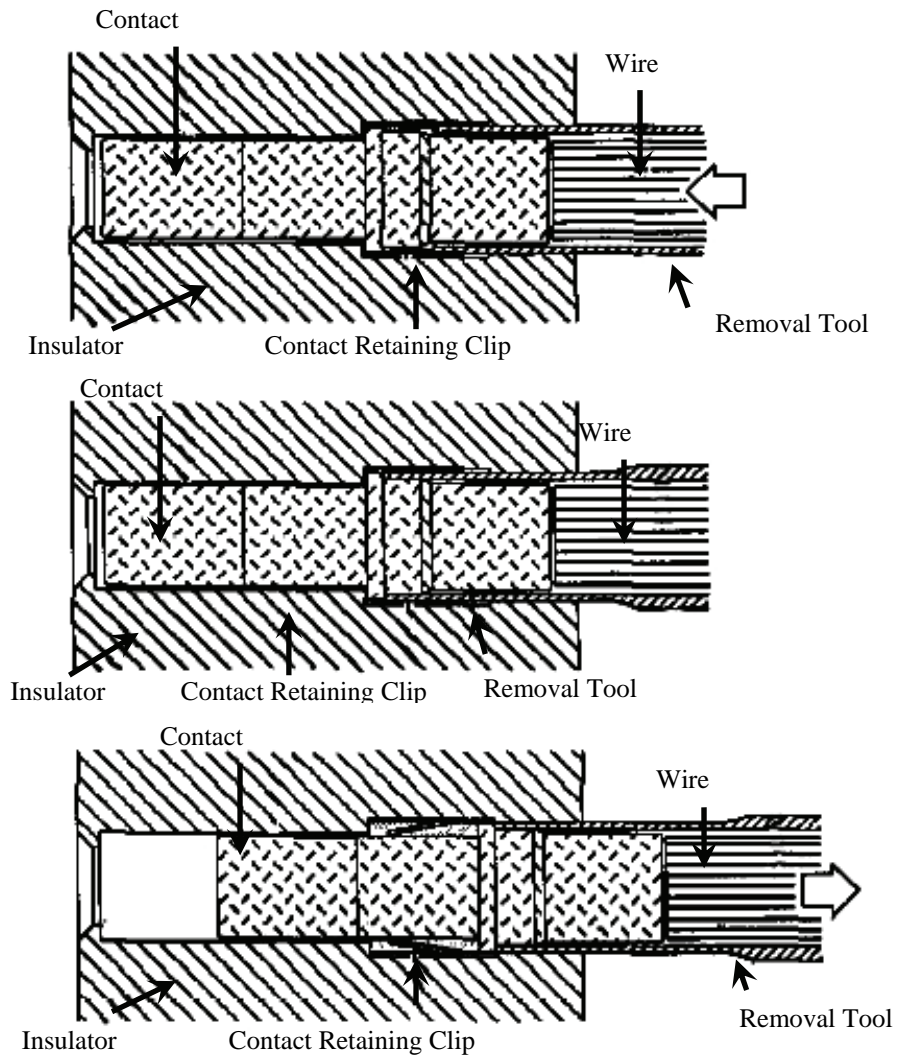

Figure 7. Contact Removal
e. Keeping tool axially aligned with contact, pull tool, wire and contact from cavity (Figure 7).